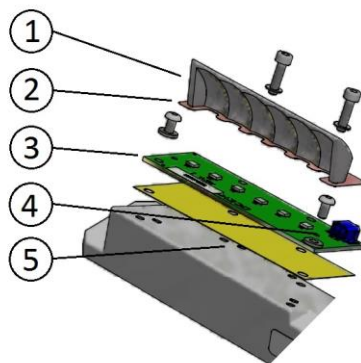

Figure 22 – LED Module Replacement
- disconnect the power supply connector from the LED module (Figure 22 – n°4)
- remove the LED module (Figure 22 – n°3) and the relevant reflector (Figure 22 – n°1) from the mounting plate unscrewing the two screw HSCS M3x12
- check that the thermal interface (Figure 22 – n°5) is placed under the LED module and right-positioned
- check that the Kapton insulating sheet (Figure 22 – n°2) is placed over the LED board is lying down and right-positioned
- reconnect the power supply connector (Figure 22 – n°4) to the LED module